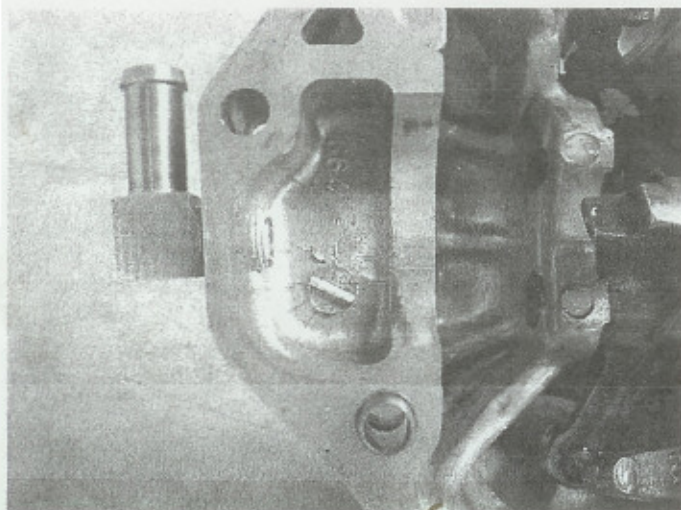

Fig. 2
- Locate one of two 90 degree barbed fittings included with the kit. Apply JB Weld or a similar high temp high strength sealant/adhesive to the threads of the fitting and thread into the hole you just tapped into the side of the head cover. Be sure that the fitting faces forward (towards the front of the cover) (Fig.2, 3).